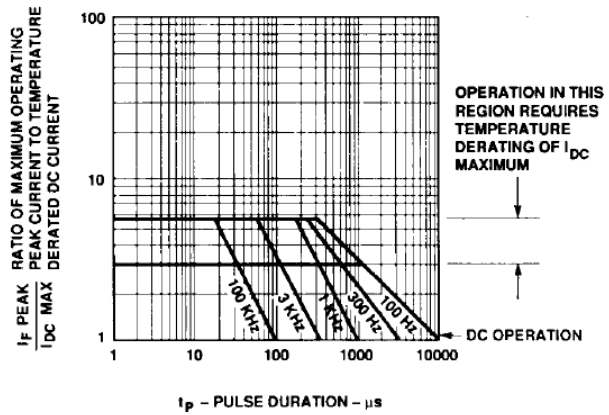

Figure 8. Maximum Tolerable Peak Current vs. Pulse Duration – Yellow.
- See Figure 8 to establish pulsed conditions.